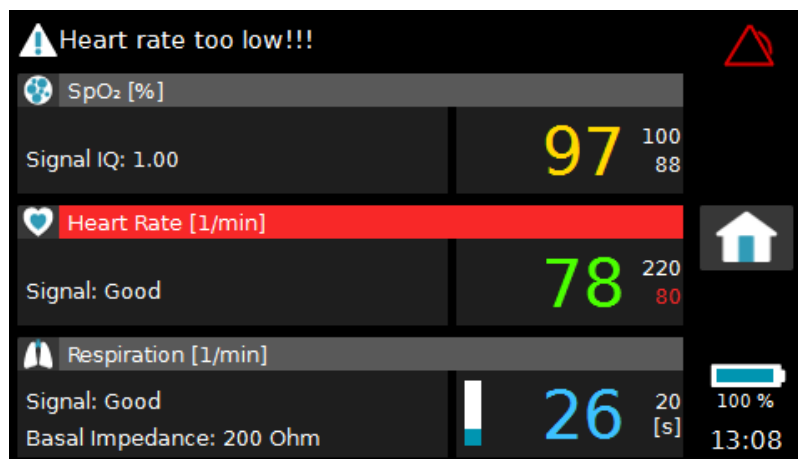

Fig. 38 Information on the Monitor Screen during a Patient Alarm
- the monitor screen outputs the following visual information, as shown in Fig. 38: